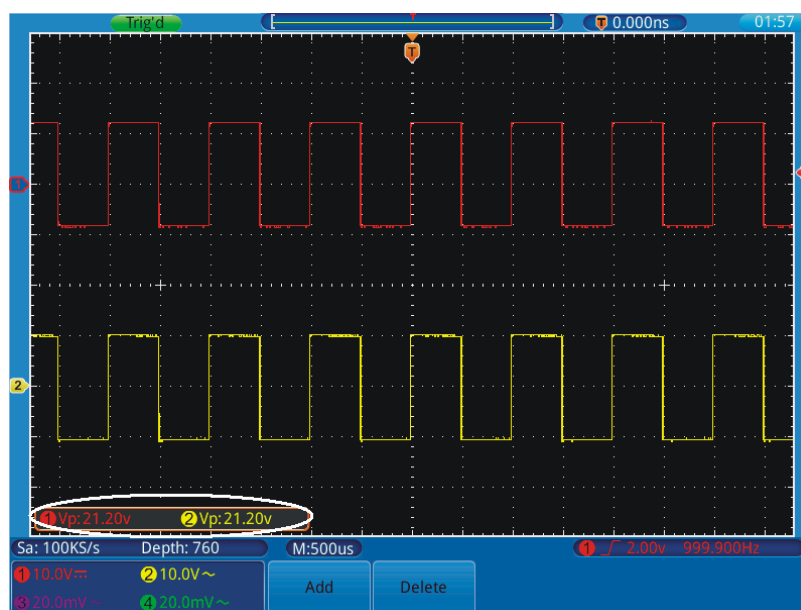

Figure 45. Waveform of Gain Measurement.
- 4 Select **Source** in the right menu; select ① in the left menu.
- 7 Select **Source** in the right menu; select ② in the left menu.
- 9 Read Vp of Channel 1 and Channel 2 from the measure window at the bottom left of the screen (see Figure 45).